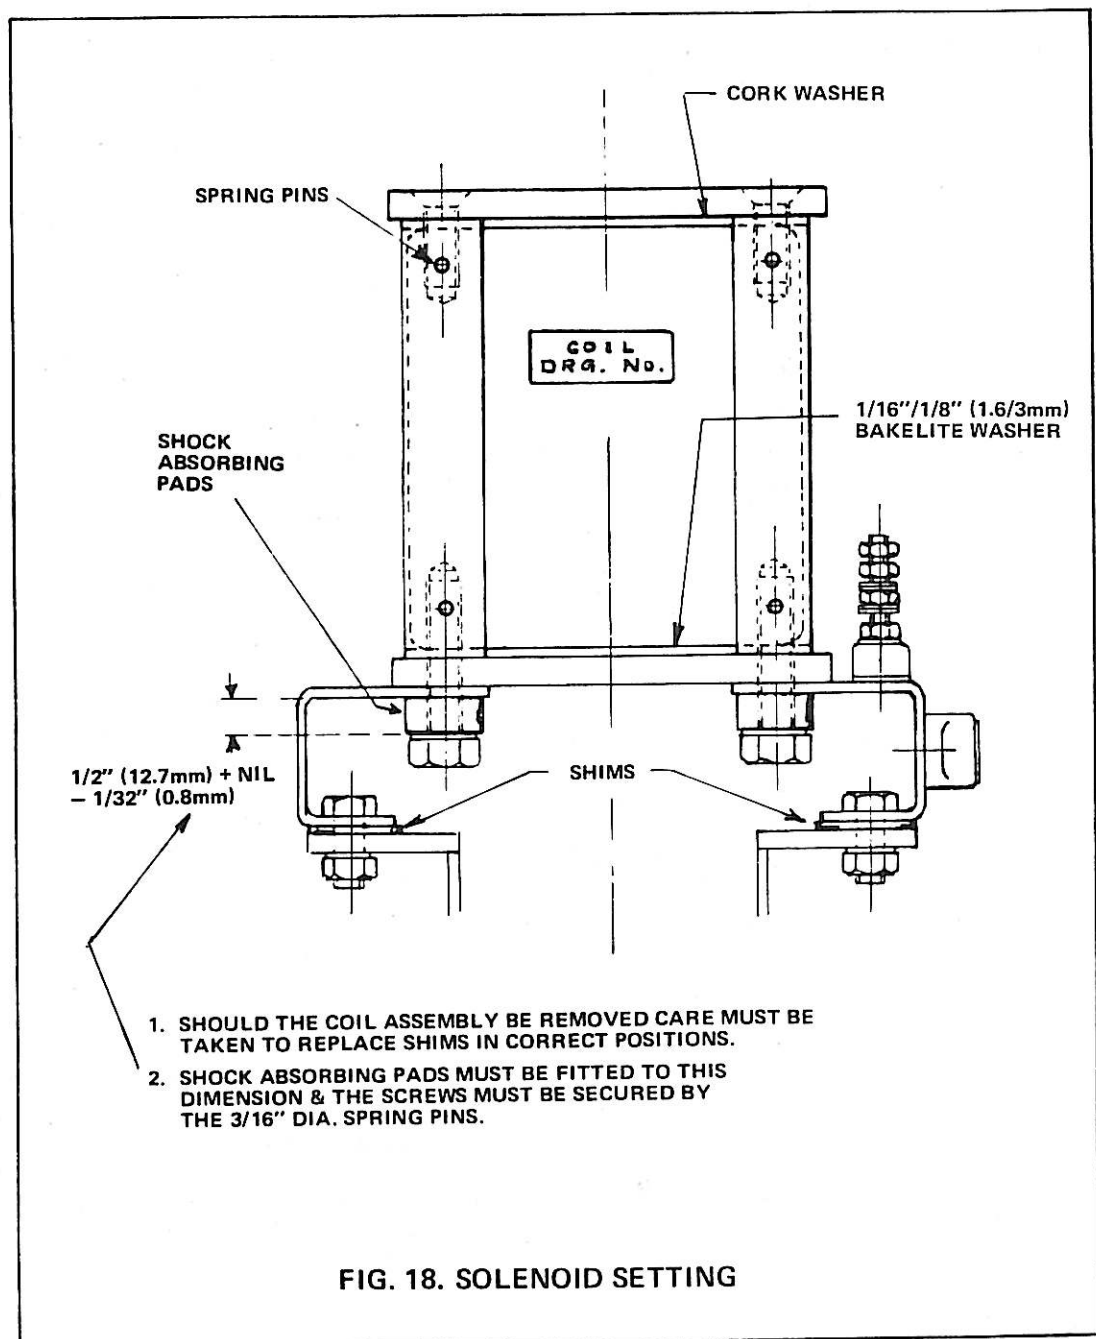

FIG. 18. SOLENOID SETTING
- 4) Mark screws for identification and remove together with washers and shock absorbing pads. Fig.18 refers.